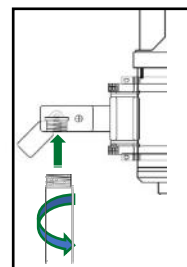

Figure 8
2. Loosen the microphone stands arm, and twist the stand arm into the threads of the suspension mounts arm. (Figure 8).